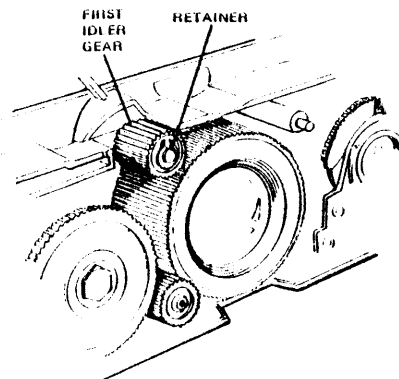

FIGURE 4-40
4. The first idler gear and retainer lie exposed, as in Figure 4-40.